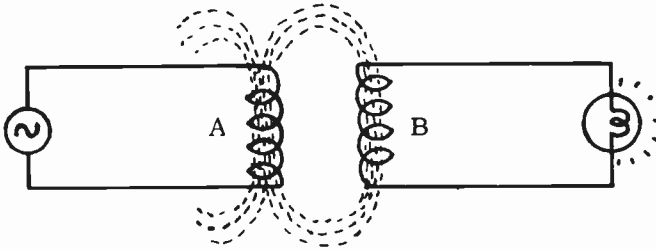

FIG. 4-14. MUTUAL INDUCTANCE.
**MUTUAL INDUCTANCE AND COEFFICIENT OF COUPLING.** When AC is applied to coil A of Fig. 4-14, a varying magnetic field will develop around it. This field will induce a voltage into coil B. Since this induced